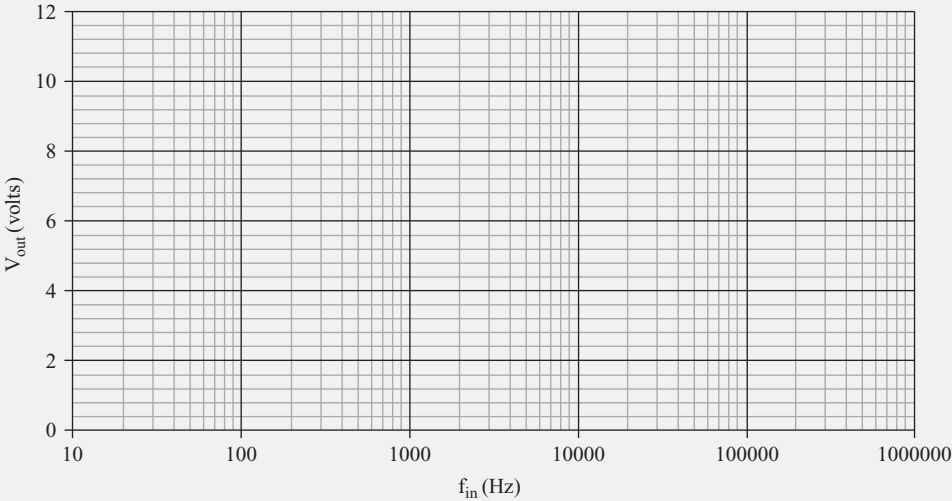

FIGURE 6.20
- 9. In the blank graph shown in Figure 6.20, plot  $V_{out}$  versus  $f_{in}$  with the voltage on the vertical axis and the frequency on the X axis. The curve should have the same shape as the curve shown in Figure 6.18.